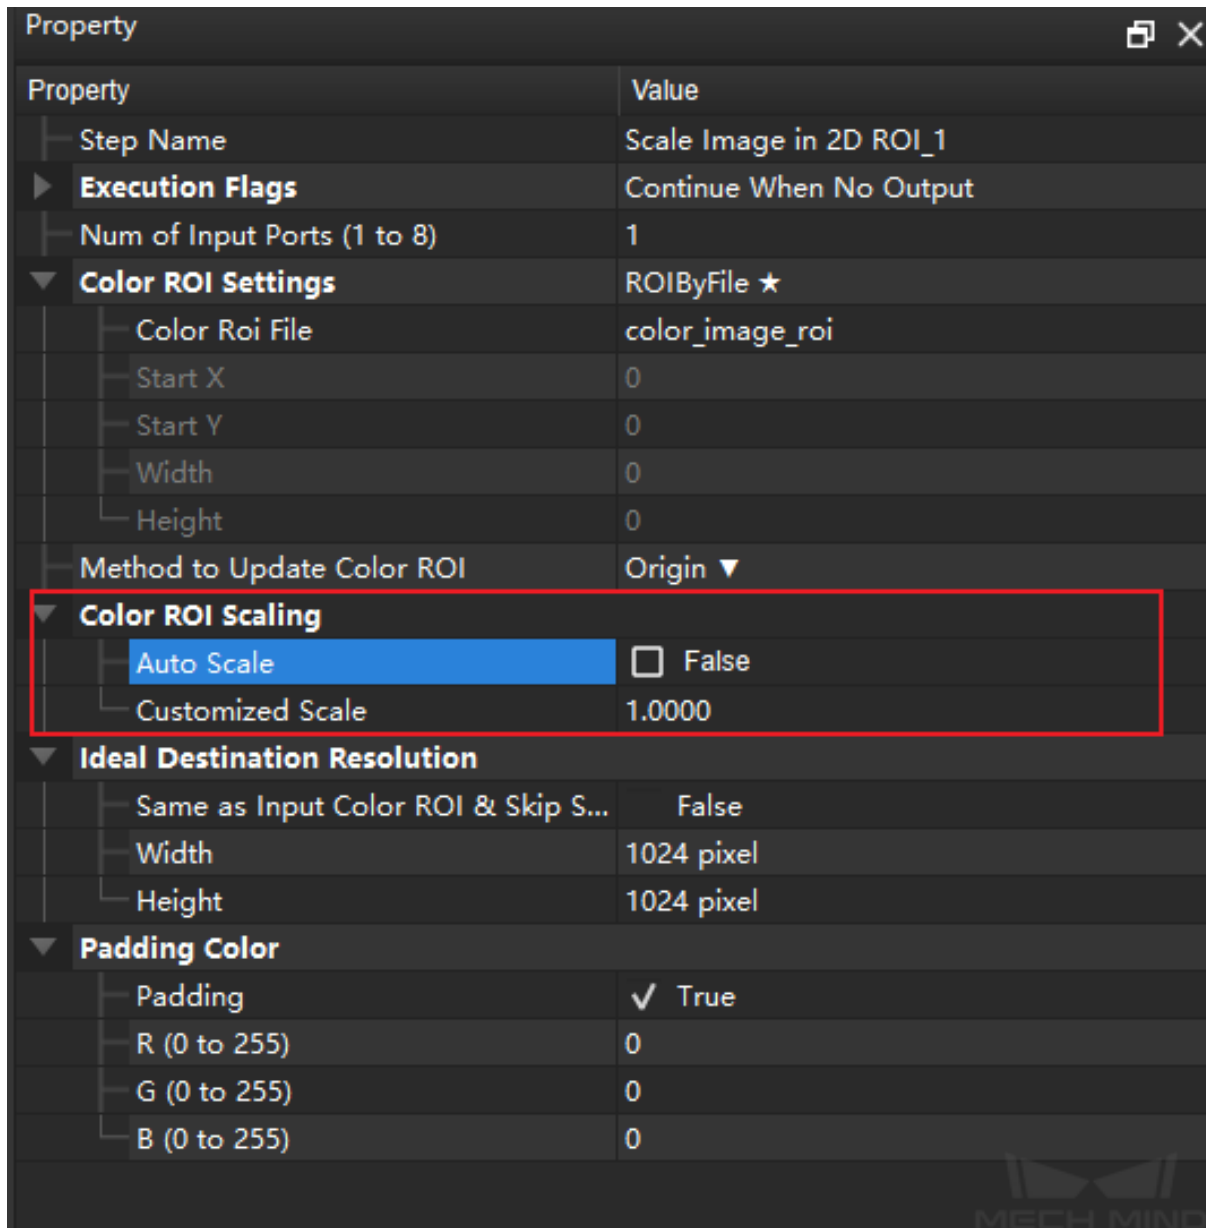

Figure 2. Auto scale
Step 2: **Scale the images within the 2D ROI** to keep the ROI of the actual data consistent with that of the training data. Normally, please set **Auto Scale** under **Color ROI Scaling** in the parameter panel to True, as shown in *Figure 2*.